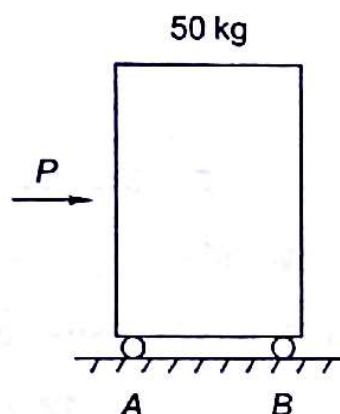

Fig. 15.22
- 15.2 A cabinet of mass 50 kg is mounted on castors, but castors are locked and slide along the floor with coefficient of friction between castors and floor equal to 0.3. If $P = 350$ N and cabinet is not to tip about A or B castors, what is acceleration of cabinet (Fig. 15.22)?